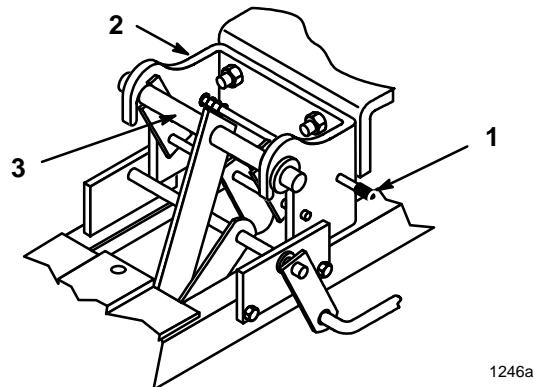

Figure 15
6. Push in on the front hitch release rod to open the hitch and remove blade lift arm (Fig. 15).